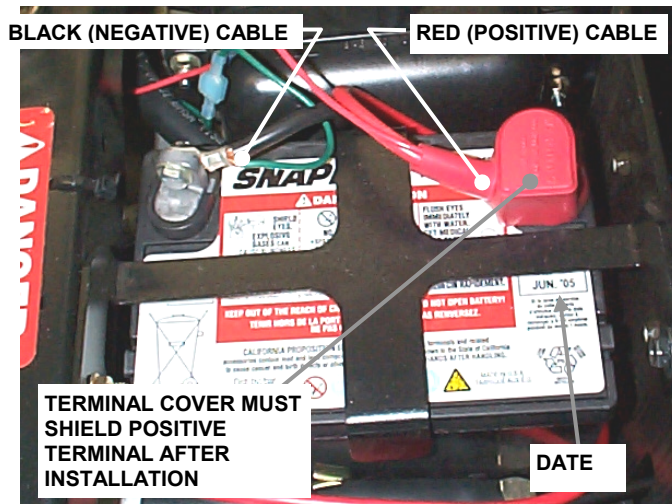

FIGURE 3
STEP 3: Check the date on the battery label. See Figure 3. If battery is placed into service after date shown on label, battery will have to be charged:
STEP 5: Both bolts are already installed on both terminals. Connect positive (+) cable (red) first, from wiring harness to the positive terminal (+) on battery and secure with nut provided in hardware bag. Connect negative (-) cable (black) last, to negative terminal (-) on battery and secure with nut also provided. See Figure 3. Apply a small amount of grease over terminals to prevent corrosion.